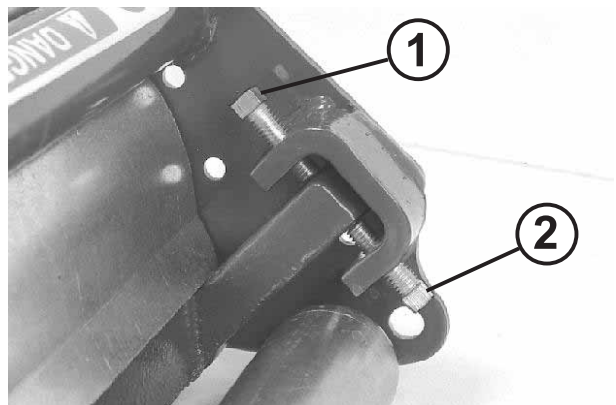

Figure 10.2.2
1. Loosen the lower adjustment screws at each end by turning them approximately 1/4 turn counterclockwise (See Figure 10.2.2).